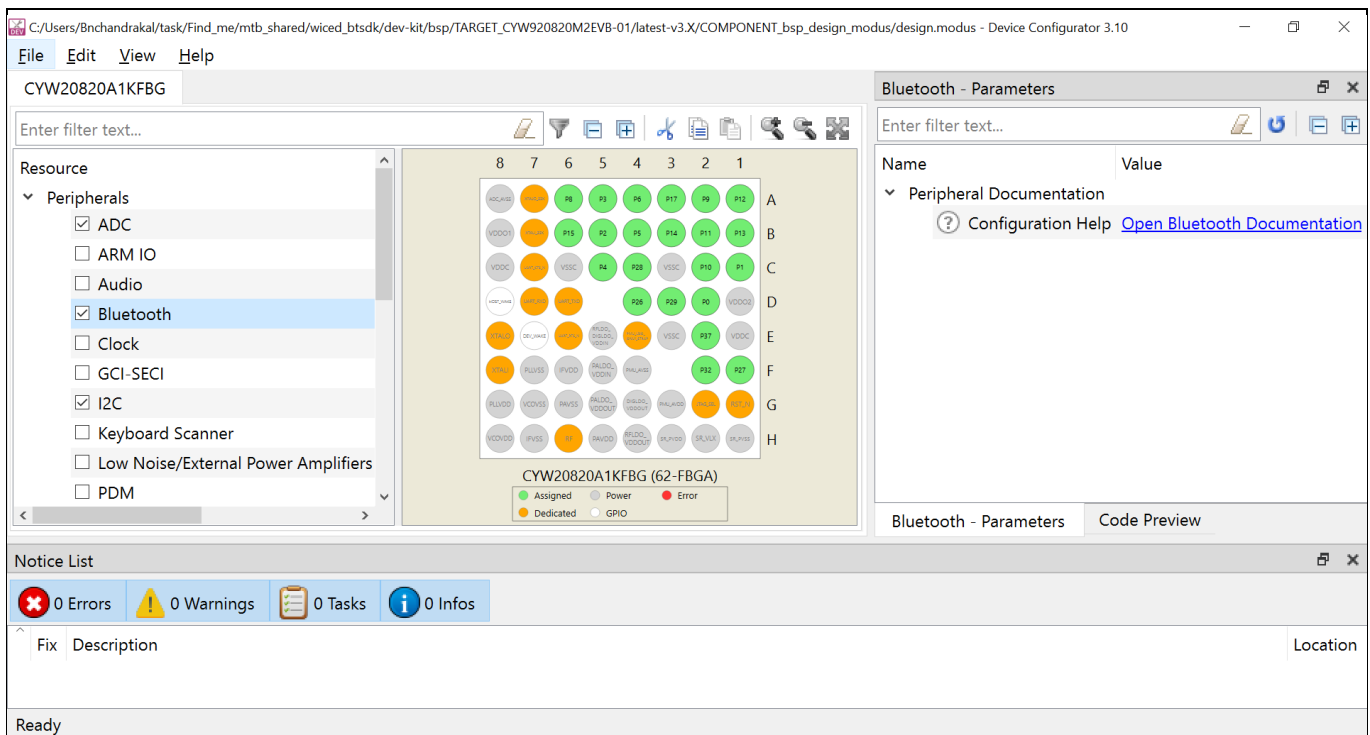

Figure 19 Device Configurator - peripherals
Figure 19 shows the Device Configurator view showing the Peripherals view for this application.
- **Peripherals:** The template application has the peripherals on the kit enabled by default, as shown in **Figure 19** (Bluetooth®, I²C, SPI 1, UART 2). For the Find Me application, only the Bluetooth® and PUART (UART 2)